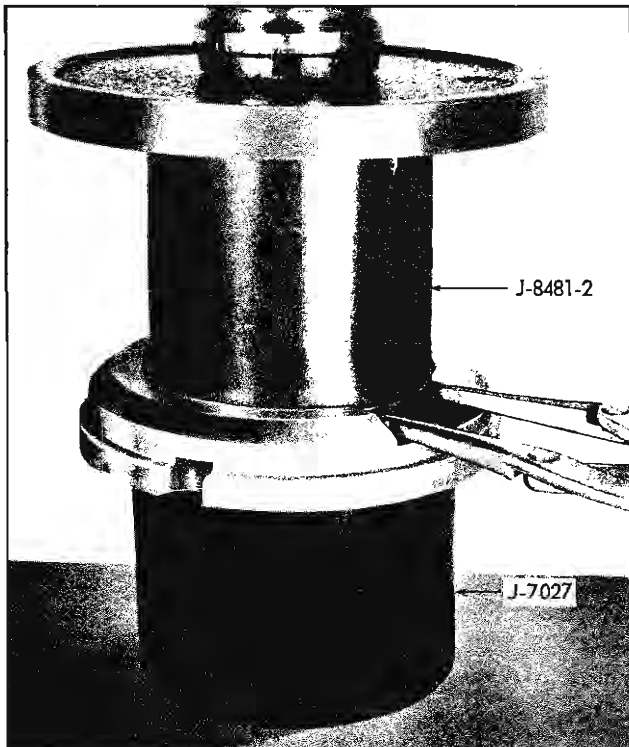

Fig. 7B-25 Removing Rear Bearing
5. With suitable socket, move needle bearings and spacer toward opposite end of countergear, just enough to serve as seat for needle bearings at opposite end (Fig. 7B-24).